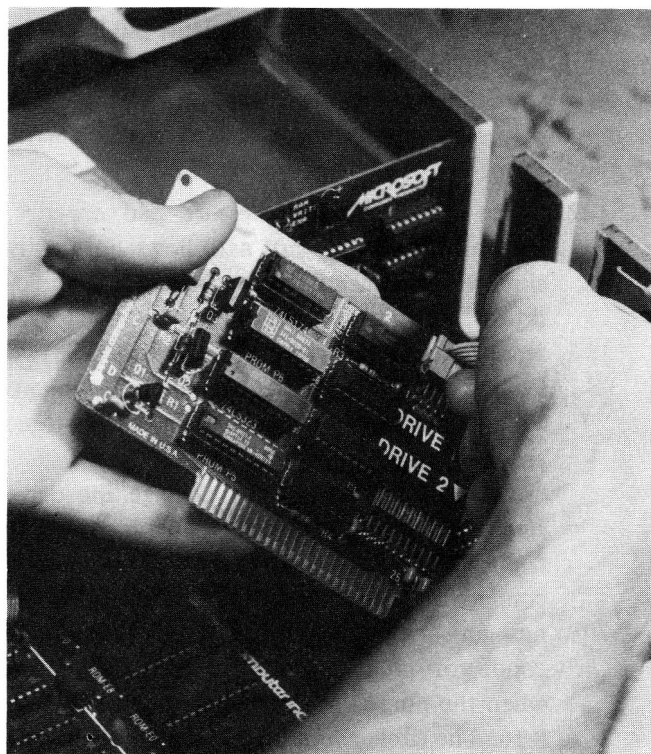

Fig. 8-17. Disconnect the ribbon cable from the disk controller card.
4. Disconnect the drive ribbon cable from the disk controller card as shown in Fig. 8-17.